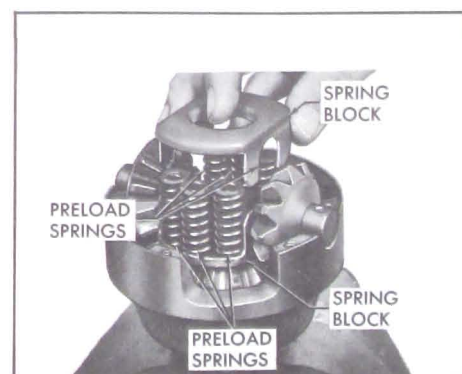

Fig. 6-41—Installing Preload Springs and Second Thrust Block Into Differential Case
5. Insert springs into spring thrust block that is already installed into case, and then place second thrust block over springs. See Figure 6-41.